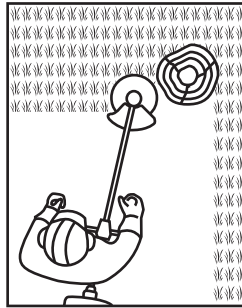

Fig. 23
3. Pay special attention when performing the work close to trees and bushes. The cutting head could damage sensitive bark, and damage fence posts (Fig. 23).